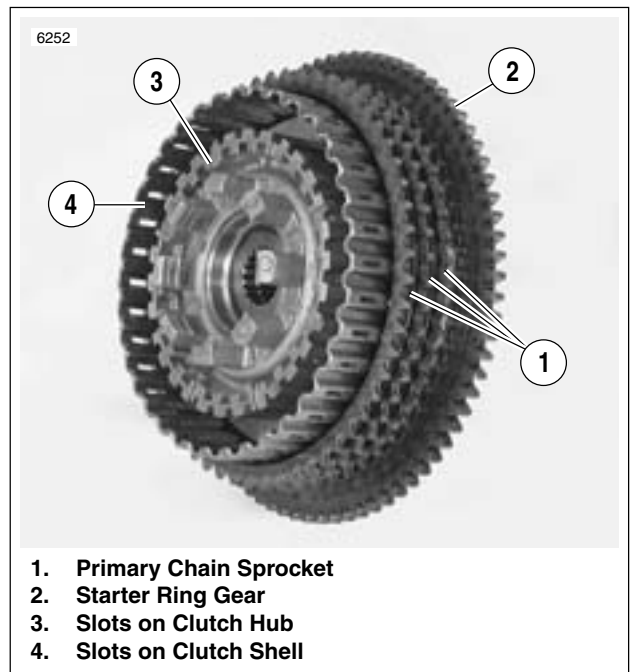

Figure 6-18. Checking Clutch Shell
4. See Figure 6-18. Check the clutch shell.
- a. Inspect primary chain sprocket (1) and the starter ring gear (2) on the clutch shell. If either sprocket or ring gear are badly worn or damaged, replace the clutch shell.
- b. Check the slots that mate with the clutch plates on both clutch shell (4) and hub (3). If slots are worn or damaged, replace shell and/or hub.